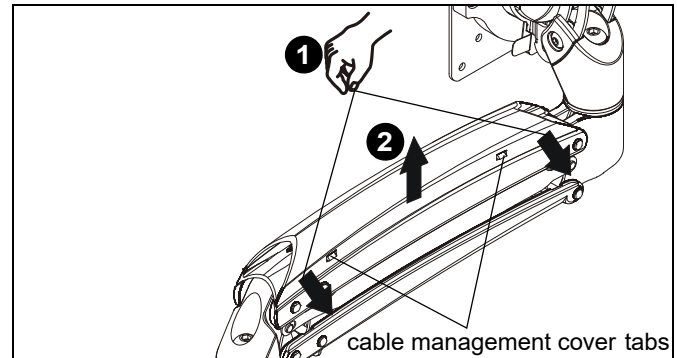

Figure 19
1. Press insides of cable management covers at both ends to unhinge tabs on either end of cable management cover on upper arm. (See Figure 19)
2. Lift cable management cover up until tabs are unhinged and cover is in the "open" position. (See Figure 19)